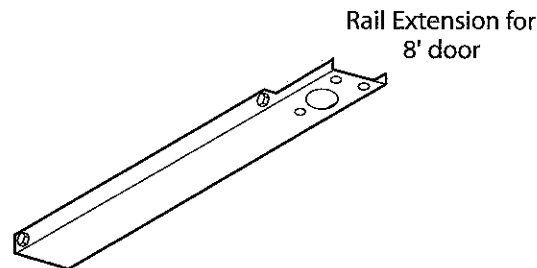

Figure 3 Rail Extension Kit
- B** If door height is 8'-0", you need a Rail Extension Kit. (Figure 3). (See Accessories Order Form, Page 23).